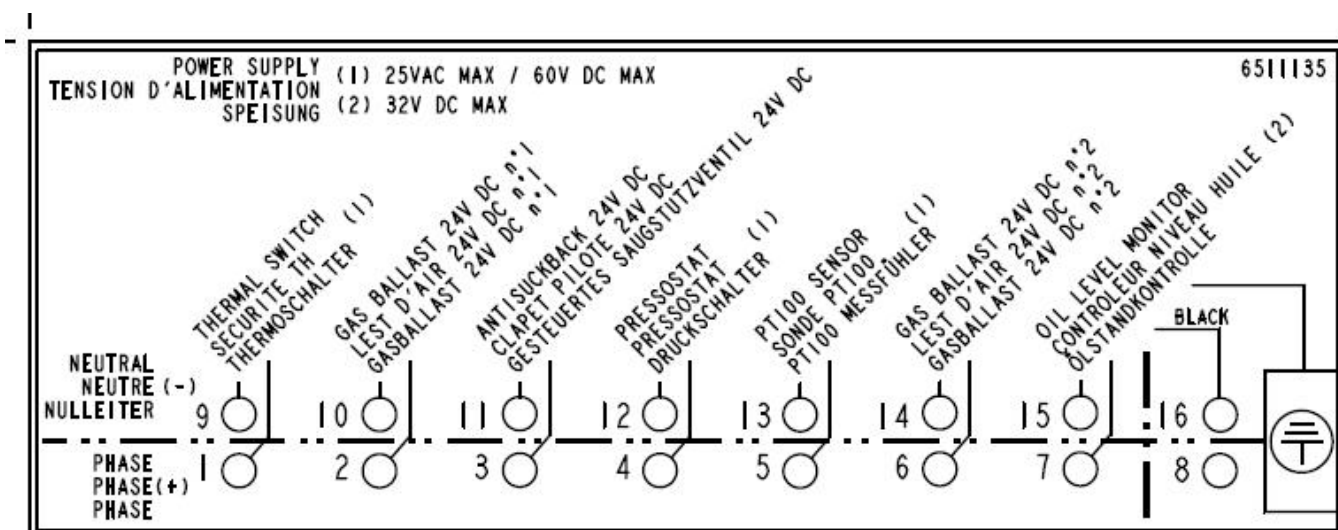

Fig 5
Connection has to be made in the junction box (see Fig 5).
To be serial wired with the coil of motor's contactor. Use an auxiliary relay. The pump is switched off once a certain oil temperature (115 °C/239 °F) is exceeded. It is also possible to connect an alarm system. (see Fig 5).
To be wired in connection box (see fig. 5).
To be serial wired with the coil of motor's contactor (the pump stops in case of missing oil). See Fig 5.
- Electromagnetic gas ballast valve 24 V DC. Connection has to be made on junction box (see Fig 5).